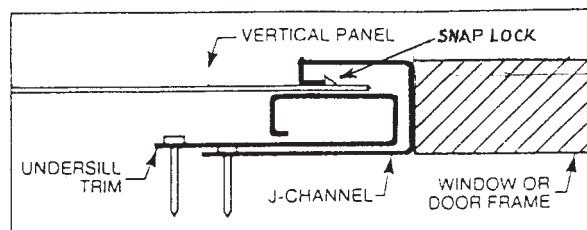

FIG. 30 Installation With Panel Cut on Flat Surface
10.8.2 If the panel is cut on the flat surface, install undersill trim, or a $\frac{7}{16}$ -in. (11.1-mm) thick furring strip, into the J-channel using fasteners that do not penetrate the leg of the J-channel. Punch snap locks along the edge of the panel at 6-in. (152-mm) intervals, snap it into the space below the return of the J-channel, locking the other side into the last panel. (See Fig. 30.)